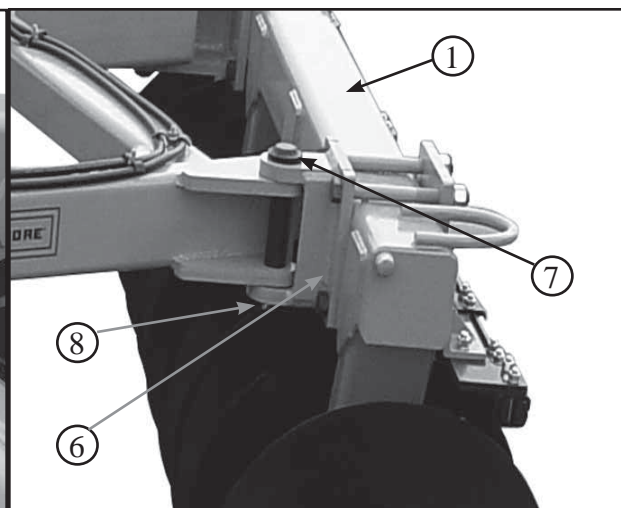

Figure 22
Install the L.H. rear hinge (6) onto main frame as shown in Figure 22. Install the pin (7) in the pivot hole and secure with a bolt (8).